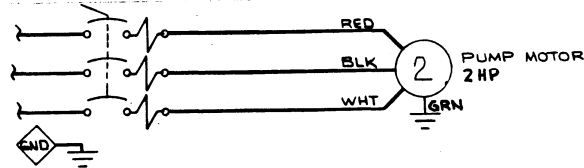

Figure 7. Elementary Wiring Diagram (Without Liquid Level Controls)
- a. Measure the incoming voltage across lines (1 & 2, 2 & 3, and 1 & 3, or 1 & 2 if 1 phase is installed.) while the pump is **operating at full capacity**. See Figure 7 on page B-15 or Figure 9 on page B-16.
Connect the pump power cable to the control box as shown in Figure 7 on page B-15 or Figure 9 on page B-16. Use conduit or cable clamps to secure the power and accessory cables to the control box. Make certain that all connections are tight and that cable entry points are rainproof.